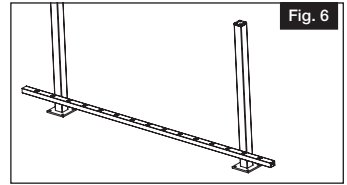

Fig. 6
- a. Place bottom rail across post opening leaving equivalent spacing from last baluster to post on each end. Make sure there is even spacing from baluster hole to post (Fig. 6).